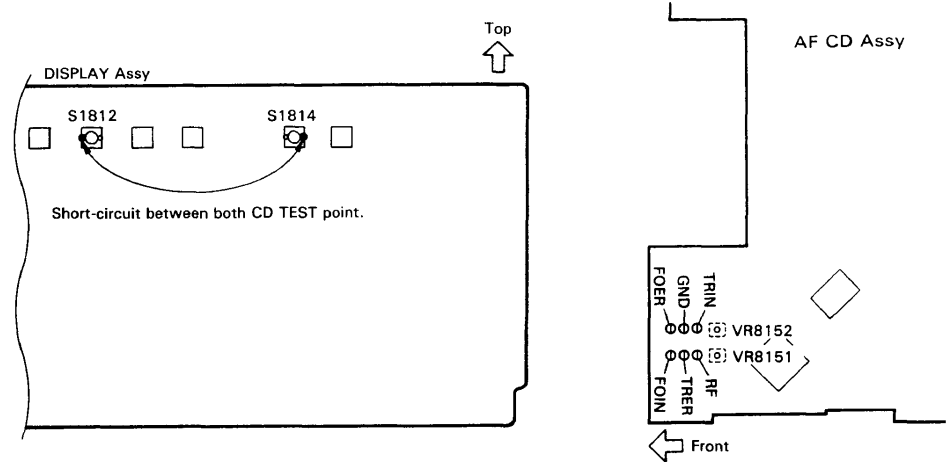

Fig. 1 Adjustment Location
2. Short-circuit between both CD TEST points. (See Fig. 1)